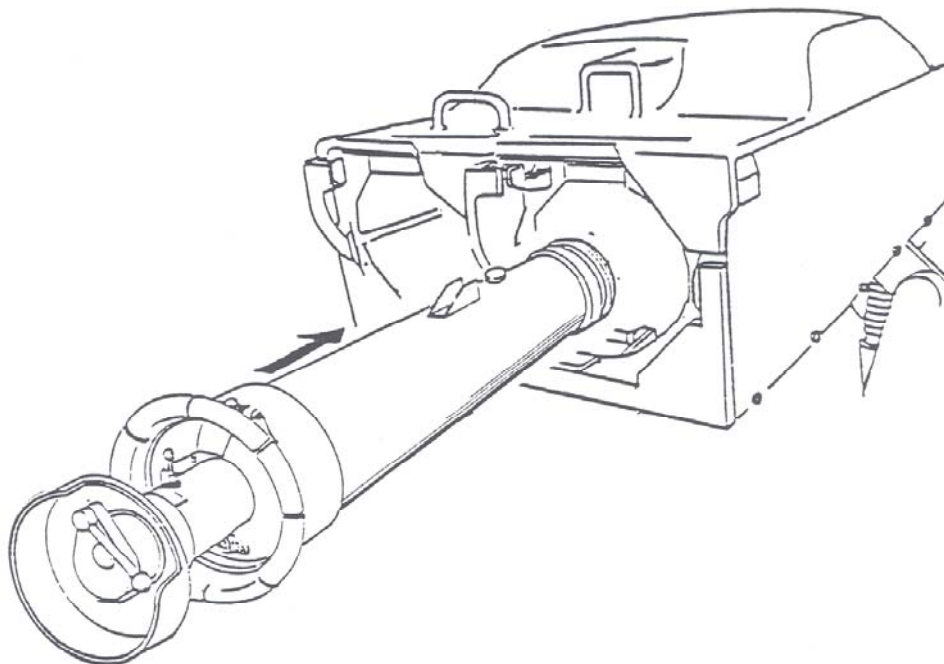

Figure 2-17. TOW Tube Loading.
- Install the Simulator Tube as you would the encased missile. (See Figure 2-17.)